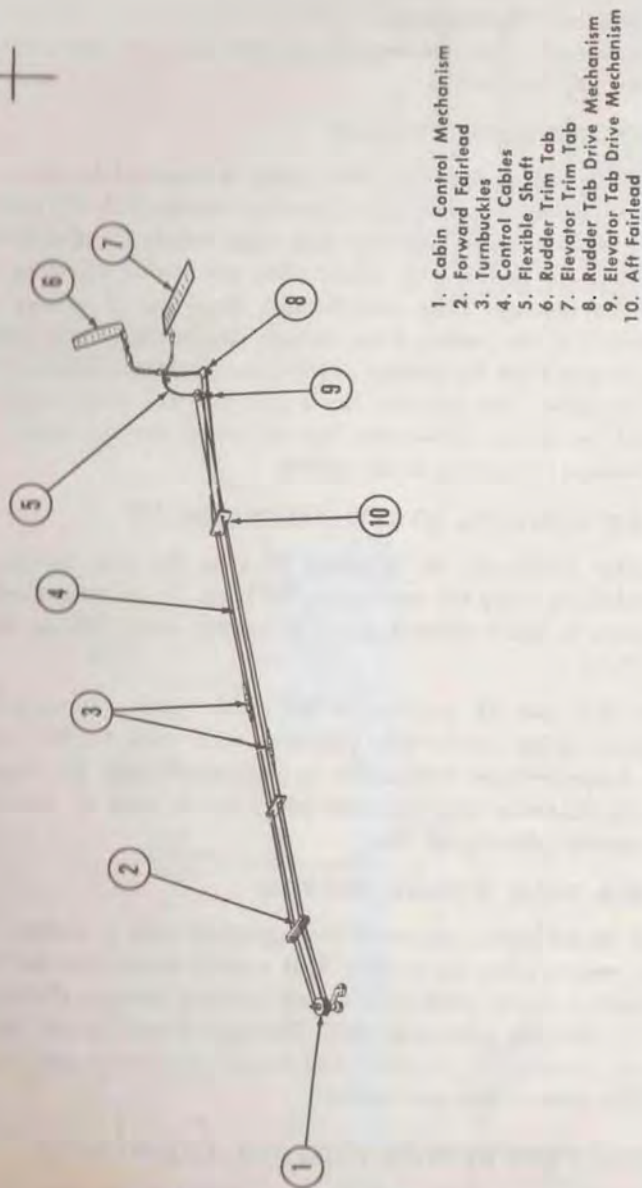

Figure 30—Trim Tab Control Systems
25. The model 108-3 airplanes are equipped with a controllable rudder trim tab. The tab, located in the rudder trailing edge, is operated by a control knob in the cabin ceiling. A continuous cable connects the forward control mechanism to a pulley at the aft end of the fuselage. The ends of the cable are connected in the after portion of the fuselage. Refer to figure 30. The aft pulley drives a flexible shaft which in turn actuates a push-pull tube by means of a screw jack. The push-pull tube is attached to the rudder tab control horn. Adjustable stops which limit the travel of the tab are incorporated in the aft pulley assembly.
27. The elevator trim tab control is similar to that of the rudder, the same type of units and mechanisms being used. Refer to paragraphs 25 and 26, and to figure 30 for details and instruction regarding the adjustment of this equipment.